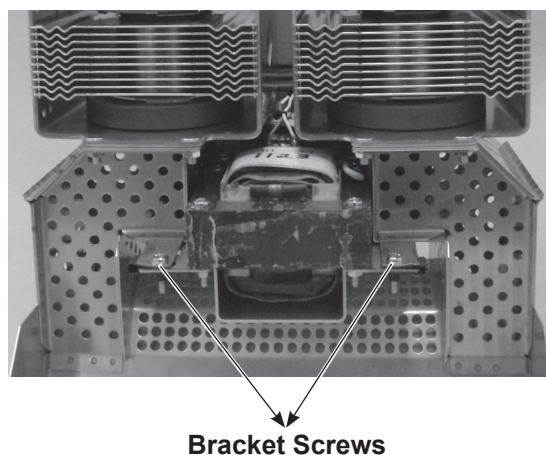

Figure 6-16 Transformer Bracket Screws
3. Remove the two M4 bracket screws shown in Figure 6-16.
15. Slide the transformer bracket all the way into the waveguide assembly. Secure the bracket with the two M4 screws shown in Figure 6-16.